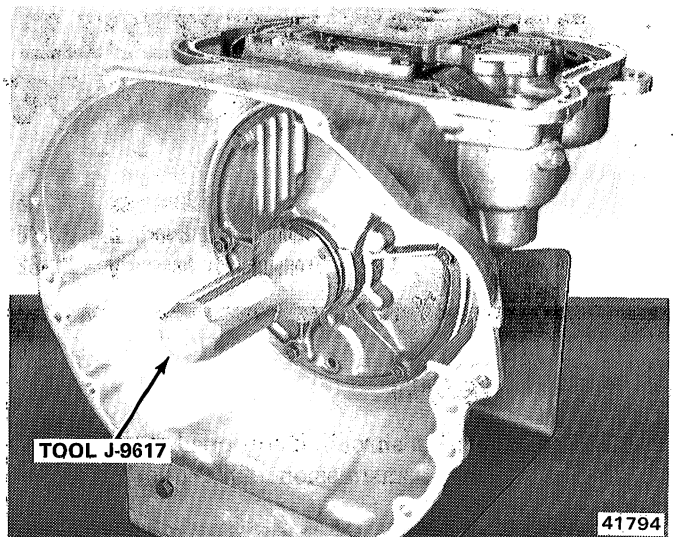

Fig. 2C-35 Oil Pump Seal Installation
- (1) Mount transmission in Holding Fixture J-24026 (fig. 2C-36).